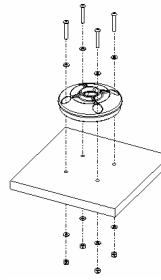

Figure 8
6. Install JTS base to table top using the supplied 5/16-18 x 2" Security screws, flat washers and nylock nuts (see figure 8).